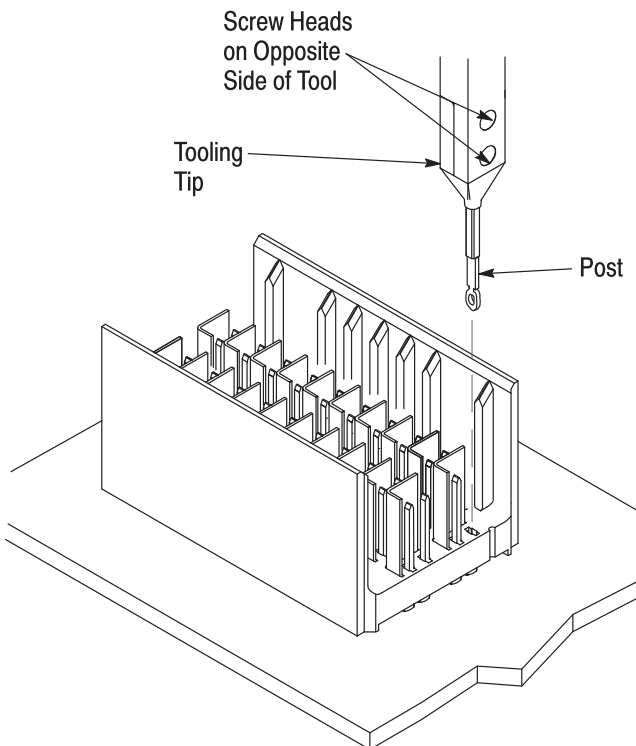

Figure 4
3. Carefully insert the tip of the post into the appropriate cavity. Refer to Figure 4.